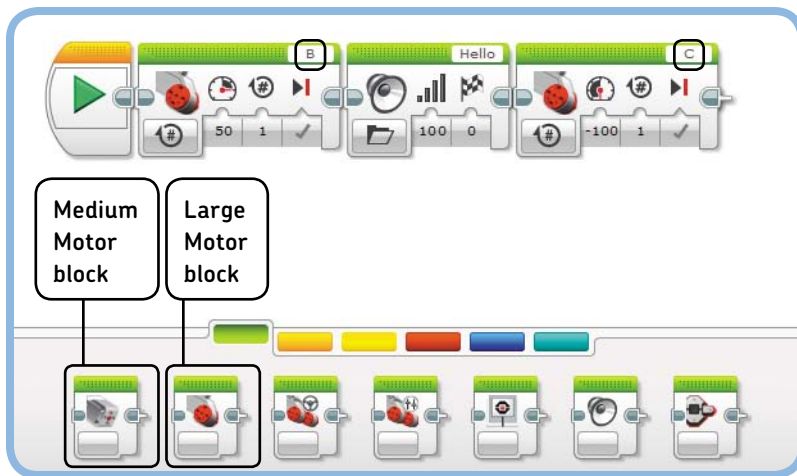

Figure 4-20: The LargeMotor program: The left motor turns forward, the robot says “Hello,” and the right motor turns backward.
The program in Figure 4-20 uses two Large Motor blocks to drive the left (B) and right (C) motors respectively, one at a time.